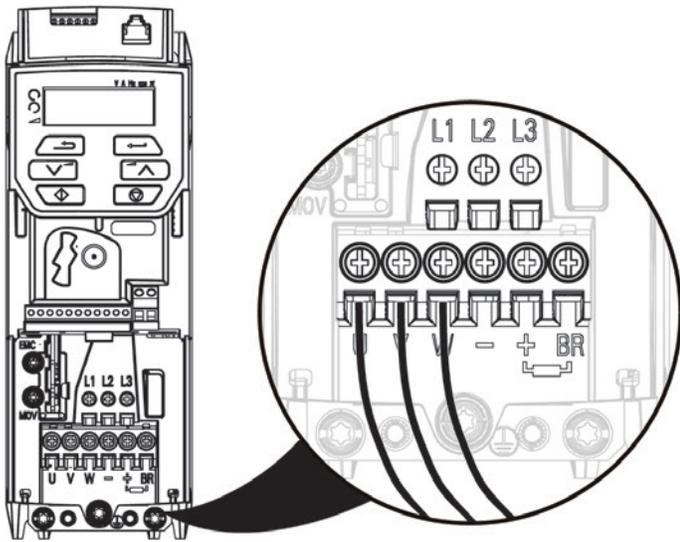

Figure 8. Connect Motor Wires to VFD
3. Connect the black Motor Lead wires to terminals U, V, W as follows and shown in Figure 8.